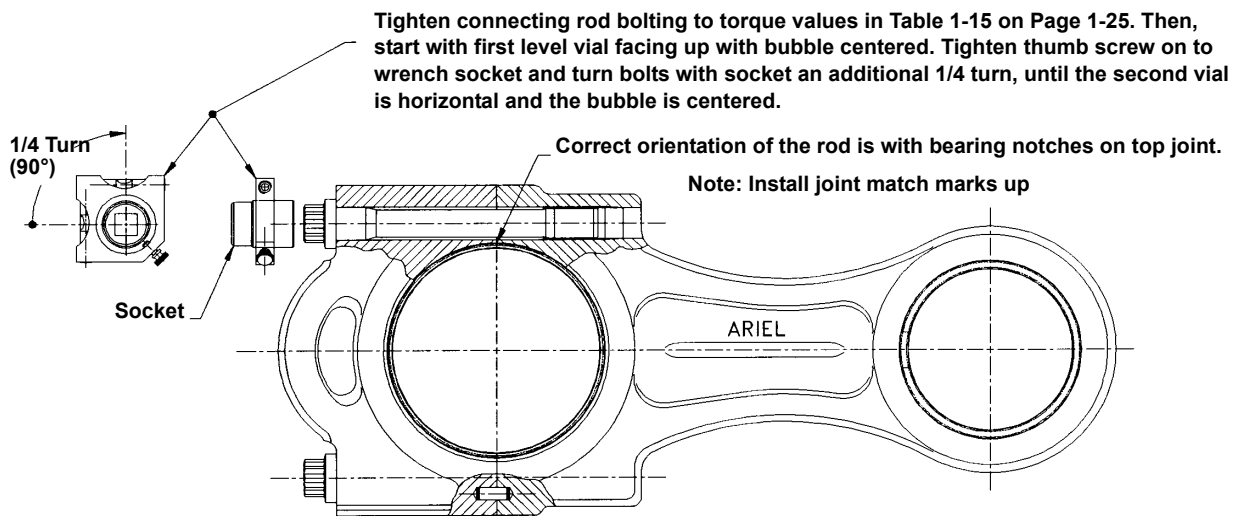

FIGURE 5-3: CONNECTING ROD -TYPICAL
1. If installing a new replacement connecting rod, stamp match mark numbers on the tops of the connecting rod and bearing cap, (with notches up), matching its throw location. See Figure 5-3: on Page 5-7.
5. Tighten the connecting rod cap screws in an alternating (criss-cross) pattern in 25% increments for each cap to the recommended torque value, and then tighten the bolts in an alternating (criss-cross) pattern to the recommended turn value. See Table 1-15 on Page 1-25 and Figure 5-3: on Page 5-7. Utilize the turn indicator tool provided in the Ariel toolbox, as shown in Figure 7-1: on Page 7-2.